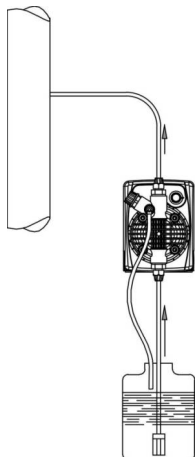
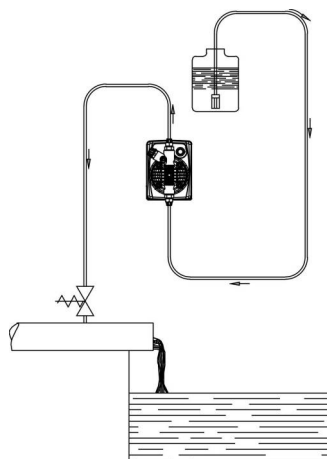

Fig. 5
Fig. 6
- c. - Install the pump in any way as shown in Fig. 5. If installed above the chemical tank, it is important that the pump height should not exceed the rated suction height, over the level of the chemical. When the process plant in which the pump is installed is operating at atmospheric pressure (no back pressure) and the chemical tank is situated above the plant (Fig. 6), the condition of the injection valve should be checked at regular intervals, because excessive wear and tear could cause additive to drip into the plant even when the pump is shut down. If the problem persists, install a properly calibrate counter-pressure valve (C) between injection point and the valve. In the case of liquids that generate aggressive vapours, do not install the pump above the storage tank unless the latter is hermetically sealed.